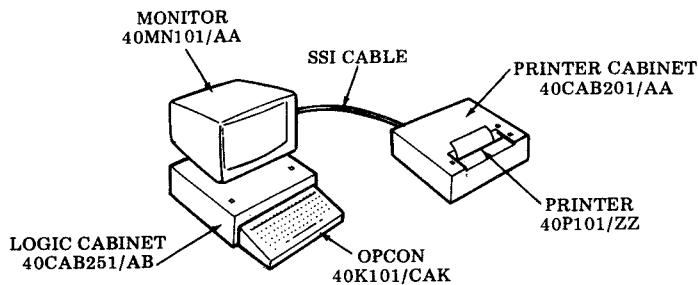

Fig. 5
3.04 Keyboard Display Printer (KDP) With Adjacent Printer (Fig. 5)